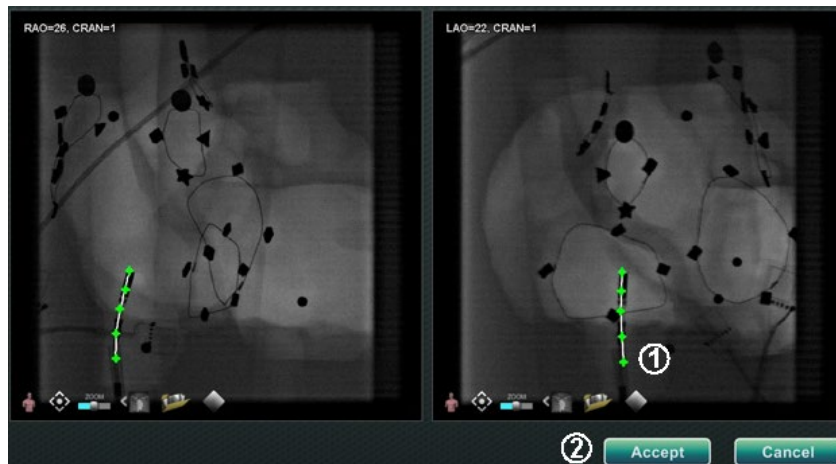

Figure 116. Fluoro annotation– Fluoro images A and B
When the cursor is moved to Fluoro Image B, a yellow dotted line displays to guide the user to the proximal point on Fluoro B **(1)**. The yellow dotted line is the longitude of the proximal point marked on Fluoro A. The user should mark the proximal point on Fluoro B at the intersection of the yellow line and the catheter **(2)**. See **Figure 116** below. The marker turns green when it is in the correct location otherwise it is red. As soon as a point is marked, the yellow line moves to the longitude for the next point.
Continue marking points as the epipolar line moves. The objective is to match the points on Fluoro B with the points on Fluoro A. The points on Fluoro A turn green as corresponding points on B are selected (1). When all points have been marked correctly, the **Accept** button turns green (Figure 116). Click **Accept** to display the vessel(s) in the Fluoro Images A and B windows (2).